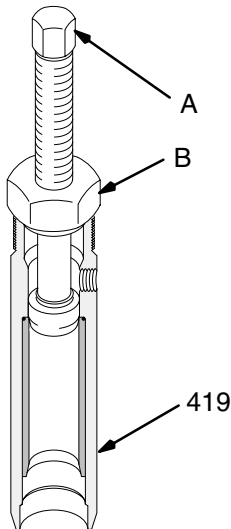

Fig. 29 0028
- Remove the sleeve. Screw the large nut (B) of the tool into the top of the cylinder (419). Screw down the rod (A) to push the sleeve out. Remove the tool. See Fig. 29.